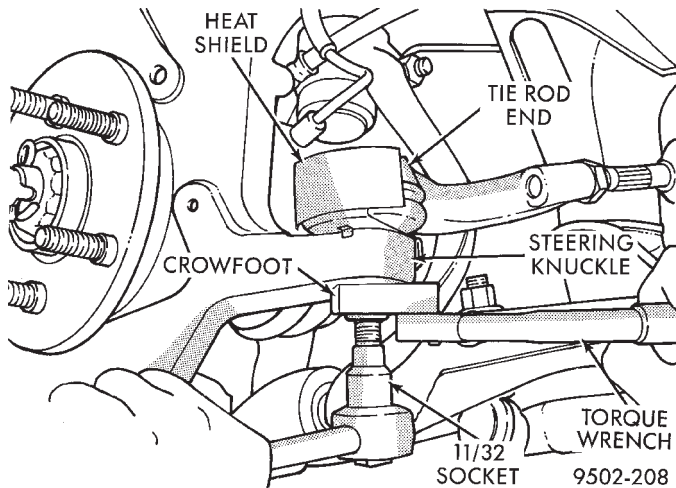

Fig. 22 Torquing Tie Rod End Attaching Nut
(12) Install tie rod end into steering knuckle. Start tie rod end to steering knuckle attaching nut onto stud of tie rod end. While holding stud of tie rod end stationary, tighten tie rod end to steering knuckle attaching nut (Fig. 8). Then using a crowfoot and 11/32 socket, torque tie rod end attaching nut to 61 N·m (45 ft. lbs.) (Fig. 22).